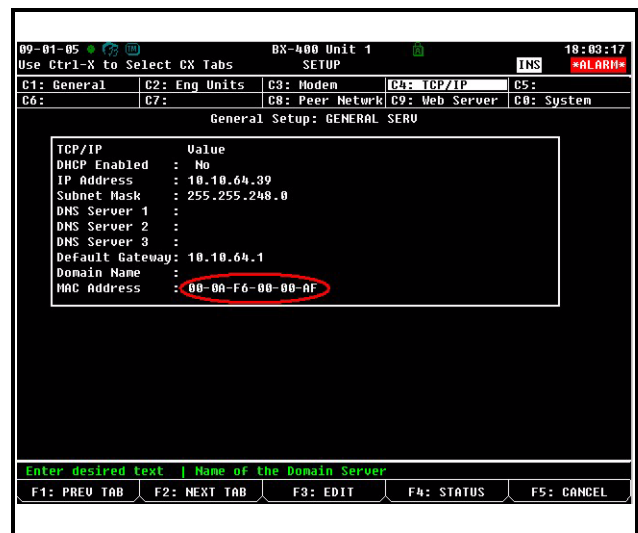

Figure 3-4 - TCP/IP Screen - Locating the Mac Address
3. Press **# 3** (TCP/IP Setup) to open the TCP/IP Setup screen and locate your E2's MAC address (circled in *Figure 3-4*):